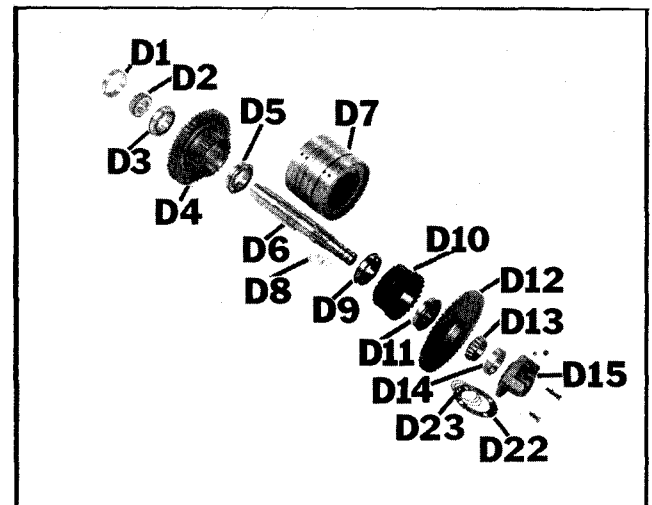

Figure 23
1. Using a suitable puller, remove bearing cone (D-13) and slide gear (D-12) from shaft (D-6) (Figure 23).
5. Remove bearings (D-3 and D-5) from clutch gear (D-4) and remove bearings (D-9 and D-11) from clutch gear (D-10) (Figure 23).